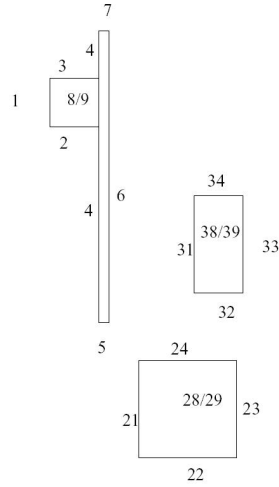

Figure II.3: Colors of the boundary faces
**Color definition:** see figure II.3
Figure II.3 shows the colors used for boundary conditions and table II.1 defines the correspondance between the colors and the type of boundary condition to use.